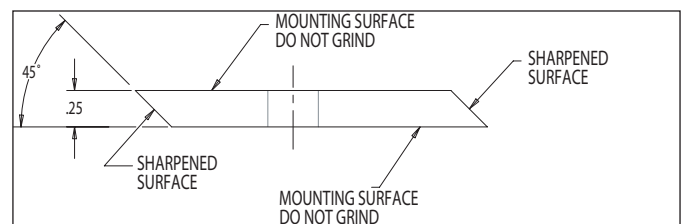

Figure 5.2 - Double Edged Blade
2. Re grind the angled edge of the chipping blades to 45 degrees (Figure 5.2).